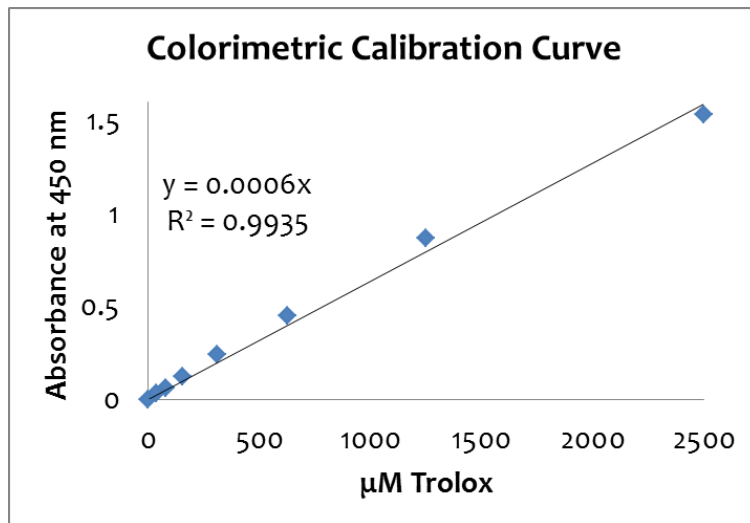

Figure 2: Trolox Calibration Curve
2. Plot a standard curve using the corrected absorbance value for each Standard versus the Trolox concentration for each Standard. The equation of the line can be found using a linear fit method shown in **Figure 2**, below:
EXAMPLE: Using the equation from the calibration curve shown in **Figure 2**.